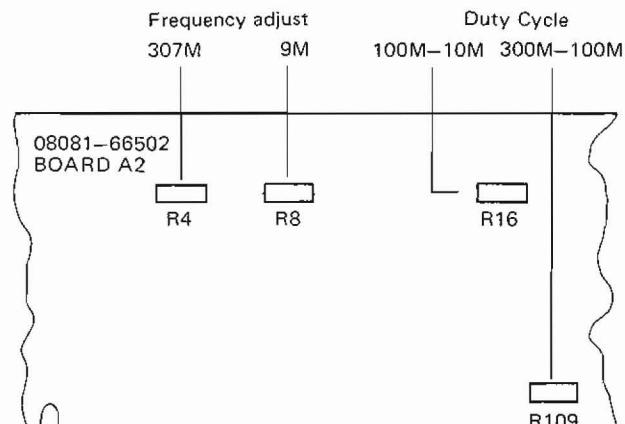

Figure 5-2. Frequency Adjustment Test Setup
3. Set up the equipment as shown in figure 5-2 and set the controls as follows: